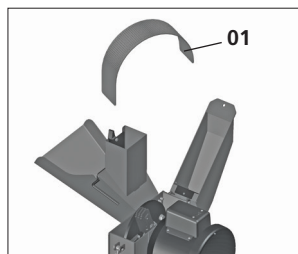
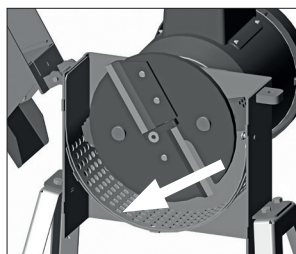

Fig. 15
Fig. 16
Insert the screen starting with the curved side (1), [Fig. 15]. Open the lid and insert the screen so that the curved side rests completely on the guides inside the machine [Fig. 16].